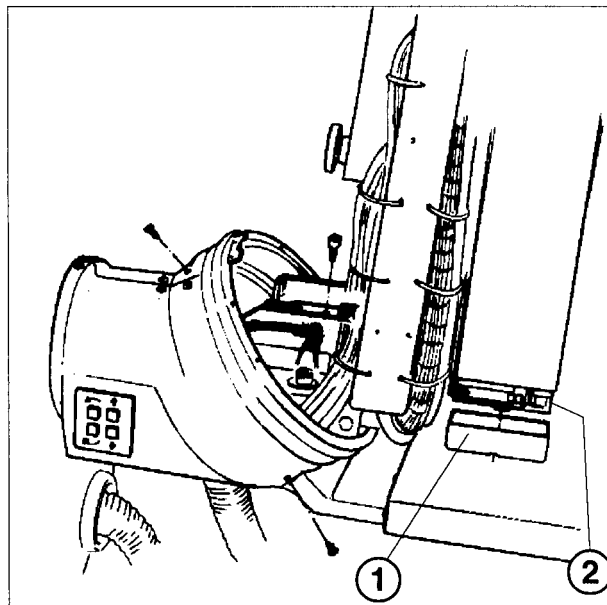

Fig. 8
- Disengage the snap lock and remove the bottom cover (1/Fig. 8) from the compression unit.
- Disconnect plugs on the board and exchange board (2/Fig. 8).
- Connect the digital multimeter to X843, pin 5(+) (comp_force), and pin 4(-) (0).
- Loosen the eight screws (4/Fig. 8) from the holder.